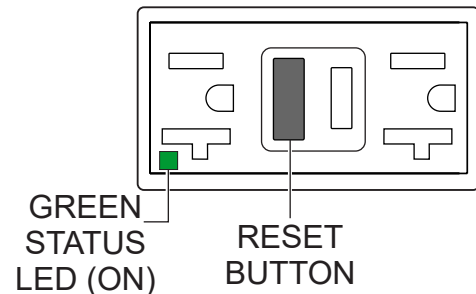

Figure 94. GFCI Receptacle (ON/Restore)
5. Press the **RESET** button (Figure 94) to restore power to the GFCI receptacle and verify that the status LED is **ON (GREEN)**.